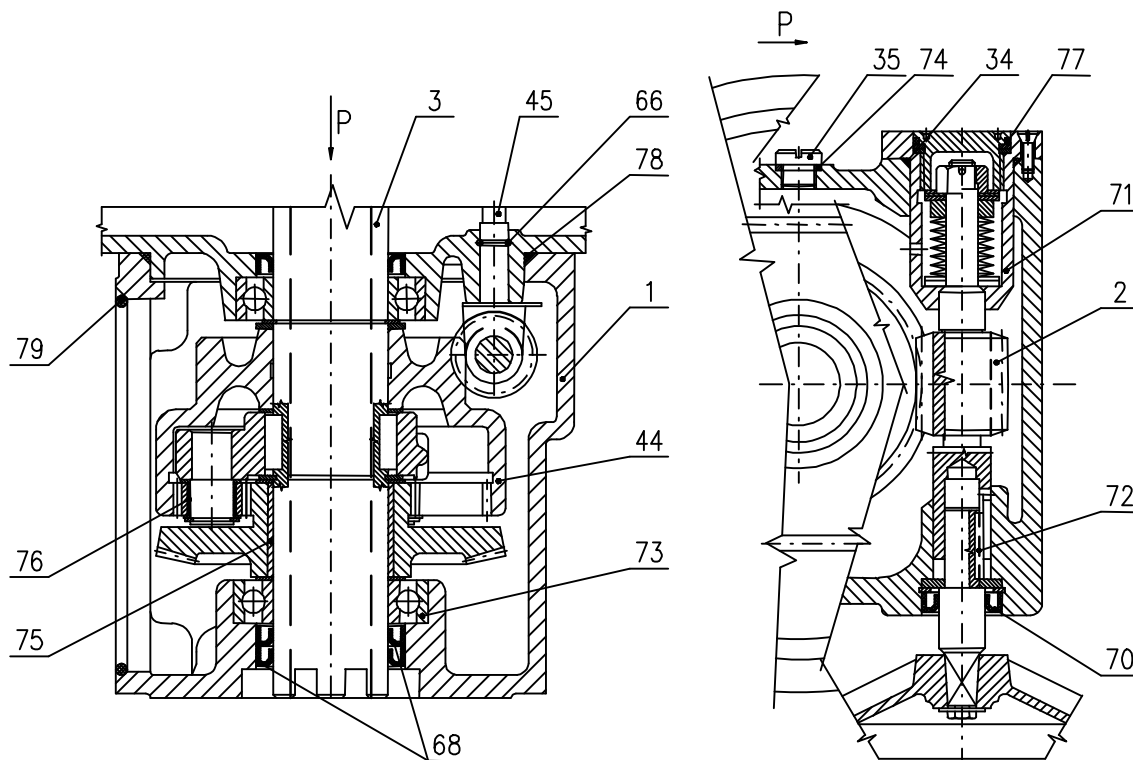
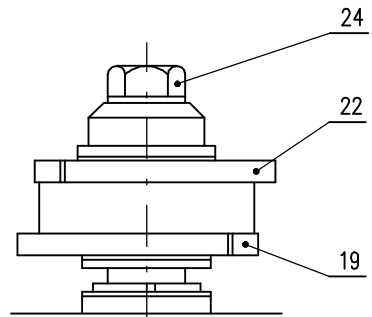
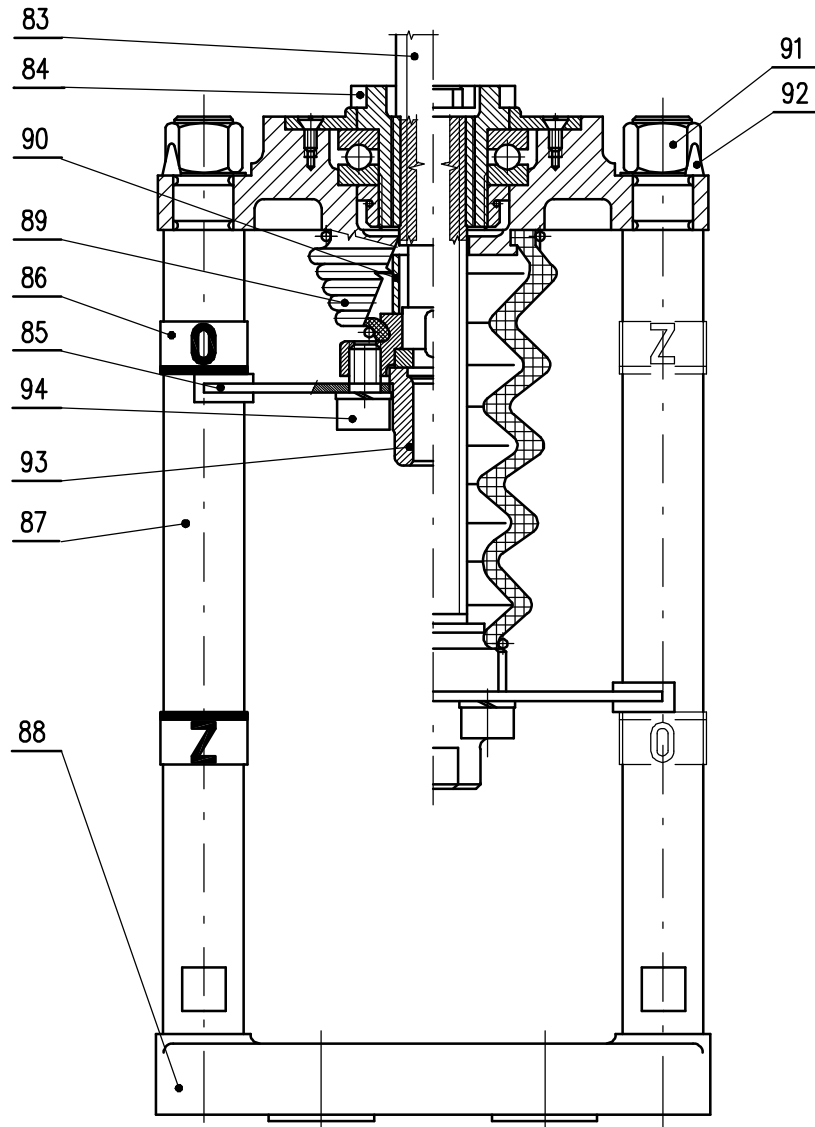

Fig.2
Fig. 6
Fig. 8
Module M3 – a gearbox with a manual control mechanism (Fig.2)
Transmitter unit (Fig. 6)
Cam unit is formed by two adjustable cams (19) and (20) (Fig.6) placed on the shaft of the torque control element (45) (Fig.2). The cams turned according to set switch-off force.
Can be made through the terminal board (58) (Fig.8) or through the connector (81) (Fig.2).